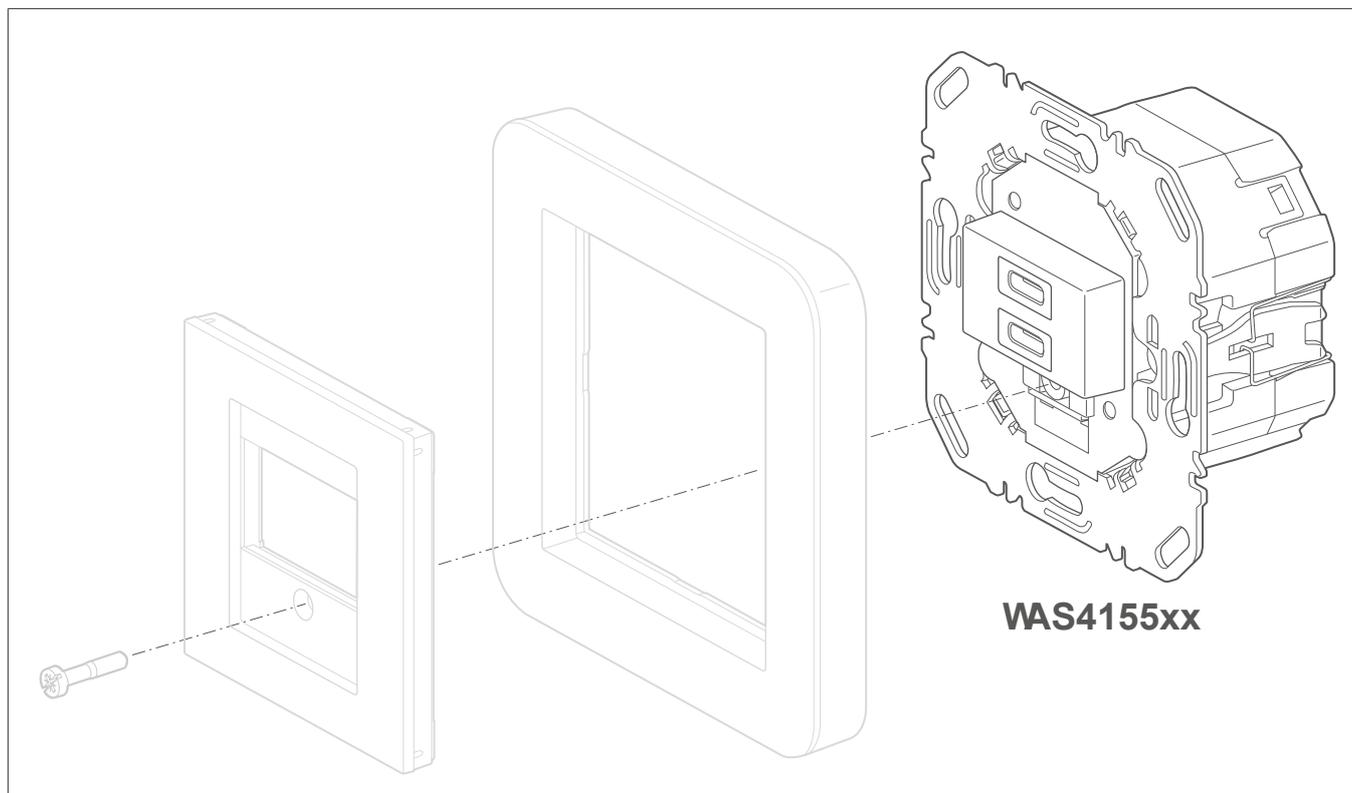
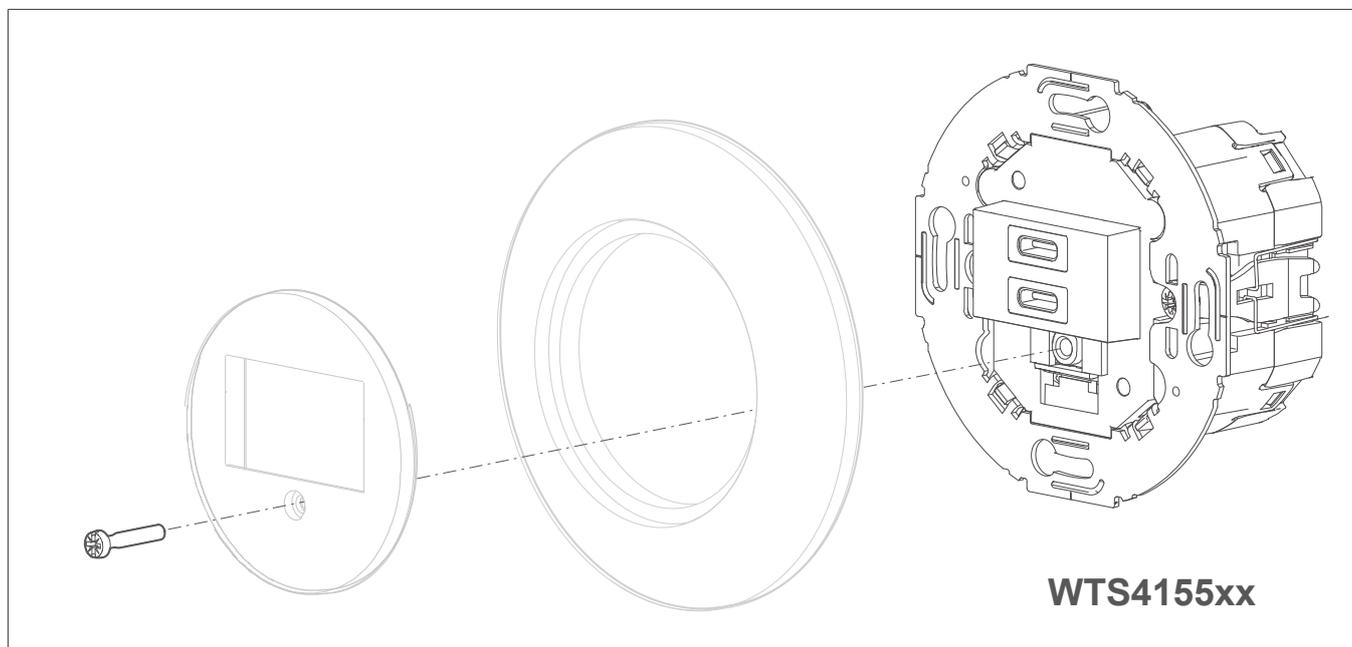

Fig. 3: Installation WAS4155xx
Fig. 4: Installation WTS4155xx
- 3 Align the frame and screw on the centre plate with TAE cut-out (required accessories) Fig. 3 or Fig. 4.